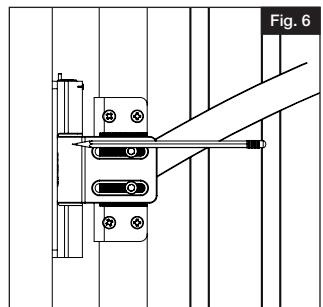

Fig. 6
- d.) Mark pilot holes on the wall/column, through the screw holes in the hinges (Fig. 6).